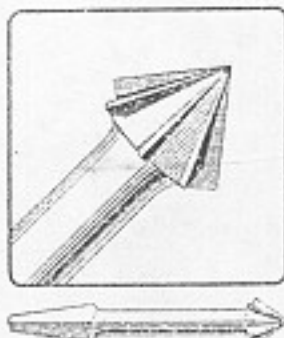

Fig. 165. Countersink.
65. Reaming Holes with a Countersink. The countersink has a cone-shaped cutter and a square shank, which can be held in a brace (Fig. 165). It is used to widen the upper part of holes bored for flat-head screws, because these screws always must be set flush or slightly below the surface of the wood. A